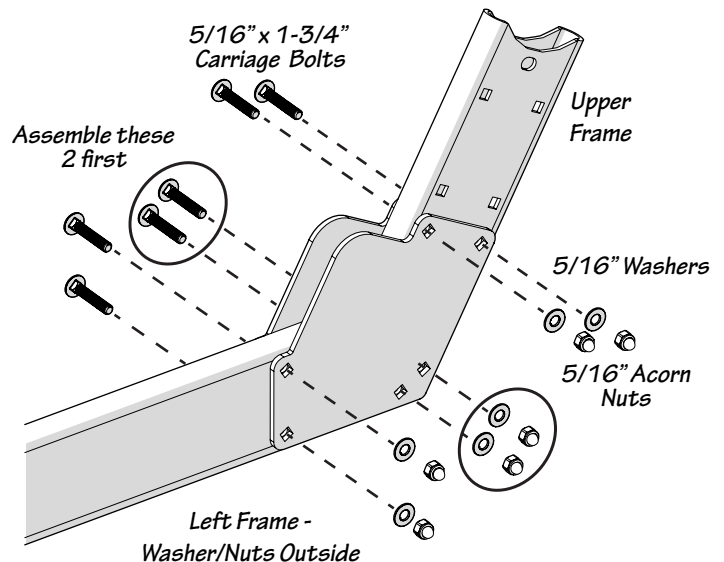

Fig. 3-3
- Lift the partially assembled frame and insert the remaining four carriage bolts through the ends of the pivot plate. Pass the bolts through to the opposite side, then attach washers and nylock nuts, as shown in Fig. 3-3.